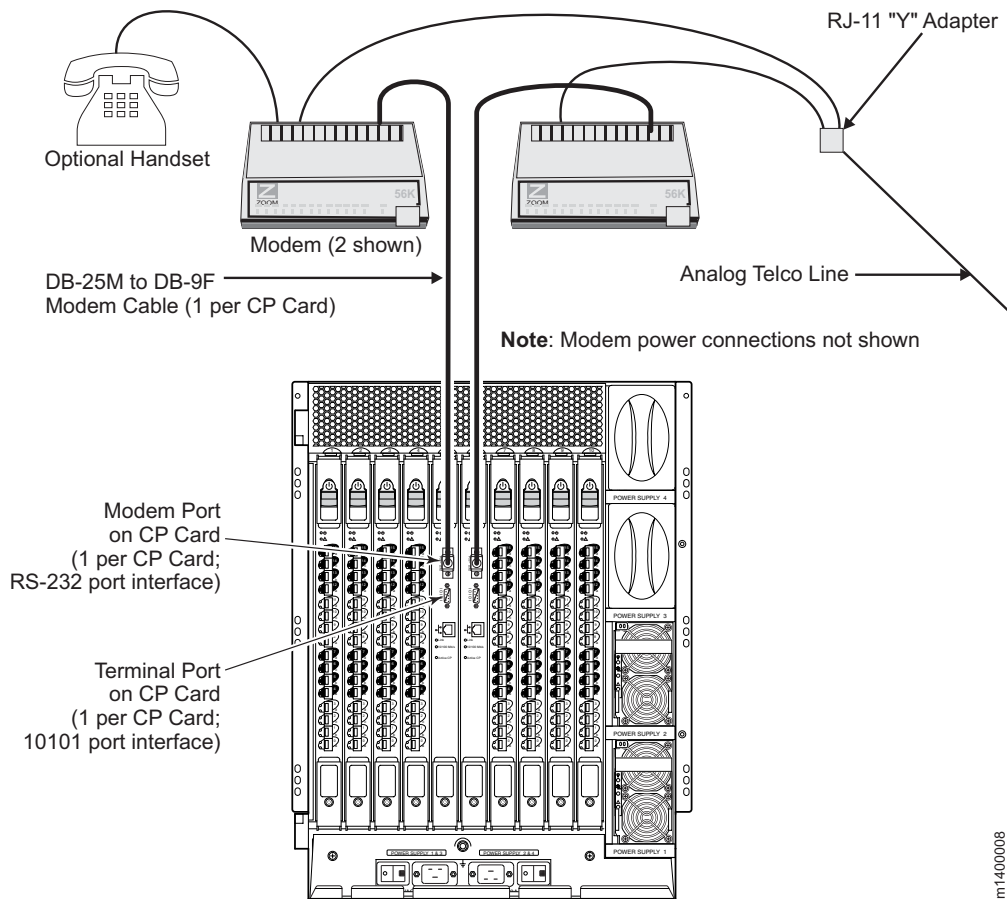

Figure 41. Two modems attached for high availability
High availability of the modem connection can be ensured by connecting a separate modem to each CP blade and then connecting both modems to a shared telephone line (see Figure 41 on page 116). This ensures an available telephone connection to the active CP blade even if a failover occurs; however, it is necessary to log back in after a failover. When both CP blades are connected to a shared telephone line, callers are automatically dialed in to the active CP blade, which answers on the first ring. If the active CP blade cannot answer for any reason, the standby CP blade answers on the seventh ring and allows login to proceed.
**Note:** If a modem connection is set up, connect a modem to each CP blade. See Figure 41 on page 116
3. Connect the modem cables to the modems and to the director RS-232 modem ports. See Figure 41 on page 116.
5. Optionally connect a telephone handset to one of the "phone" connections on the modems. See Figure 41 on page 116.
3. Verify that both modems indicate they are ready by illuminating their Clear to Send (CS), Terminal Ready (TR), and Modem Ready (MR) indicators. If this does not occur, ensure that the modems are connected to a power source and are powered on. Check all modem cable connections.
7. Verify that after one ring, the modem associated with the active CP blade (usually in slot 5), illuminates the Off Hook (OH) indicator on the modem and a login prompt is presented to the remote client.
10. Remove the Telco connector from the active CP blade modem, leaving the Telco line from the standby CP blade connected to the “Y” connector. See Figure 41 on page 116.